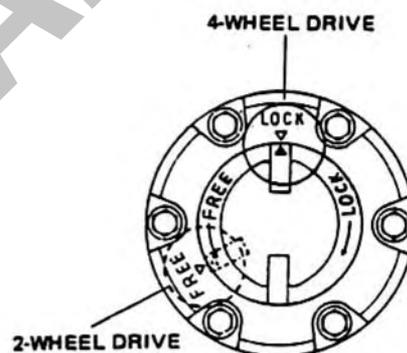

Figure 1:2
**1.16** Vehicles can be fitted with free-wheeling hubs to reduce noise and wear, and improve fuel consumption. However, you must ensure that both hubs are locked in position before selecting 4WD. Free-wheeling hub selectors are located at the centre of the front wheels and have two distinct positions (Commonly marked LOCK and FREE). In the LOCK position, the axle is connected to the wheels by a dog clutch system enabling power to be delivered to the wheels when 4WD is selected. (See Figure 1:2).